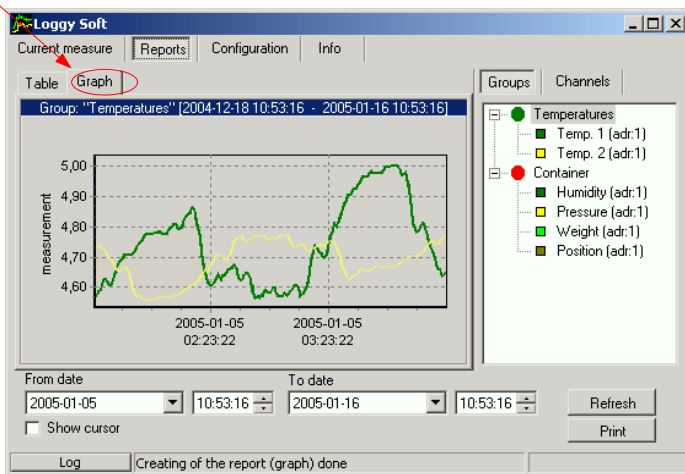

Fig. 3.6. Reports - Graph tab
Graph tab (Fig. 3.6) is used for viewing and printing of measurement results recorded by an **PMS-90R** device (e.g. temperature, humidity) in the form of a graph. Measurements from a maximum of five recorded measurement channels can be viewed.
- **graphs area** - plots measured values (e.g. temperature, humidity) in function of time. Each channel is distinguished by a different colour (Fig. 3.6);
- click appropriate tab **Groups** or **Channels** (Fig. 3.6),